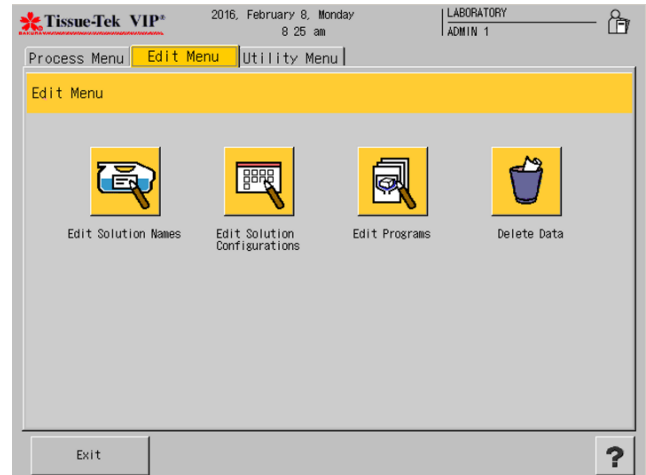

Figure 3-II
2. From the Main Menu, touch the **Menu** button and then touch the **Edit Menu** tab to display the Edit Menu (Figure 3-II).